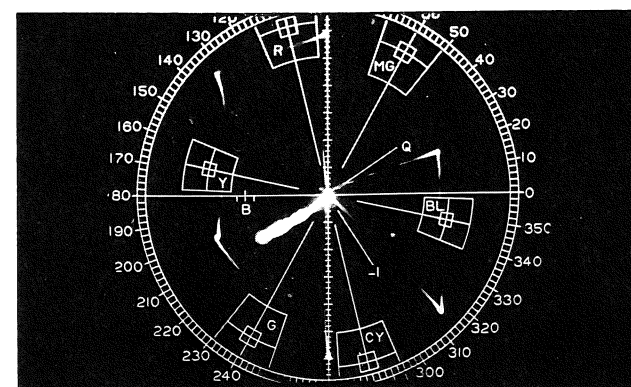

Fig. 3-3. Result of improper setting of the FINE PHASE control. Note that the entire display (burst and color vectors) is rotated from its proper position.
9. Adjust the FINE PHASE control until the burst vector lies exactly along the —X axis. (Fig. 3-3 shows the result of improper adjustment of the FINE PHASE control.)